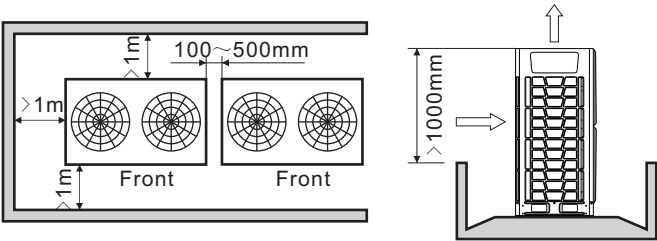

Fig. 3.11 1 row
3) When outdoor units are higher than surrounding barriers and they will be arranged in a row, please see Fig.3.11.